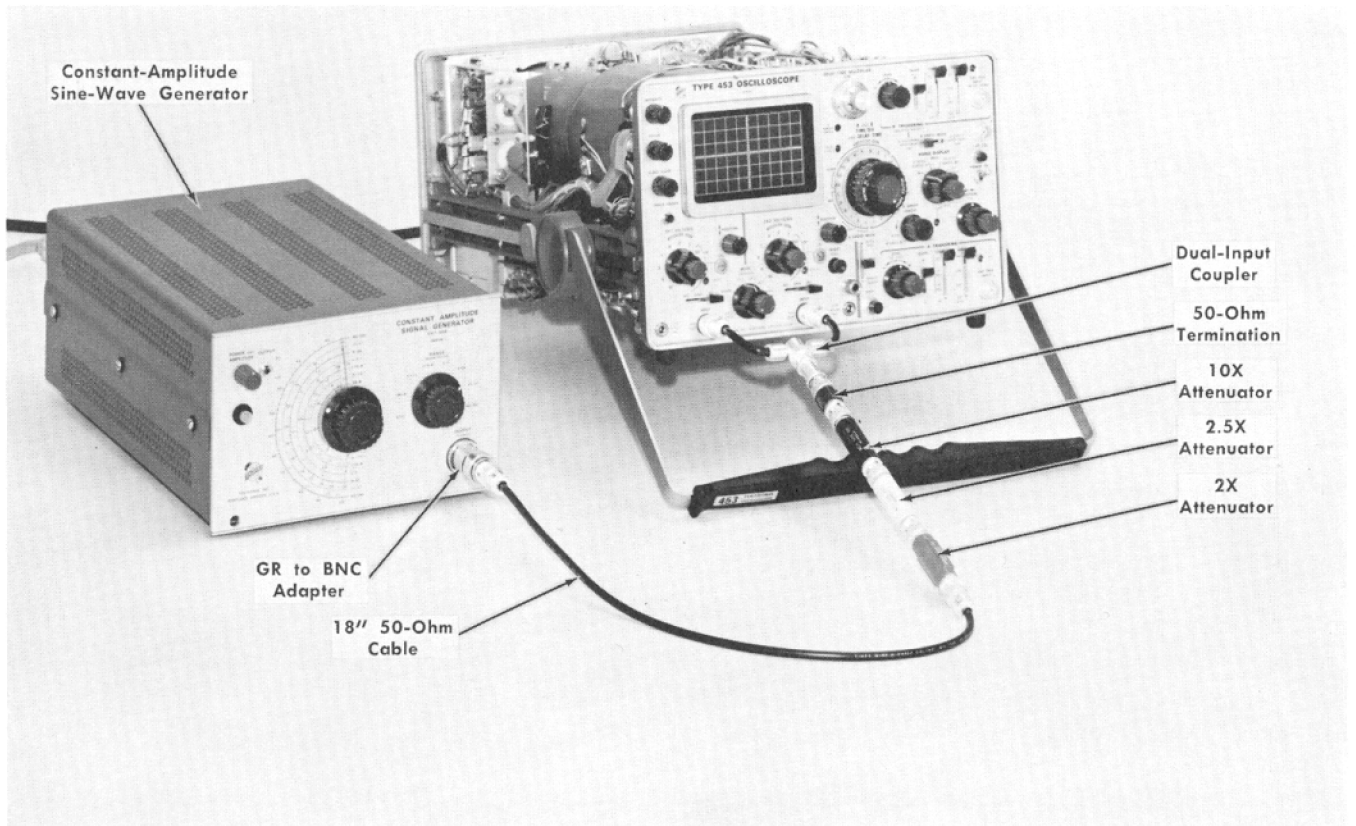

Fig. 6-31. Test equipment setup for step 28.
- a. Test equipment setup is shown in Fig. 6-31.